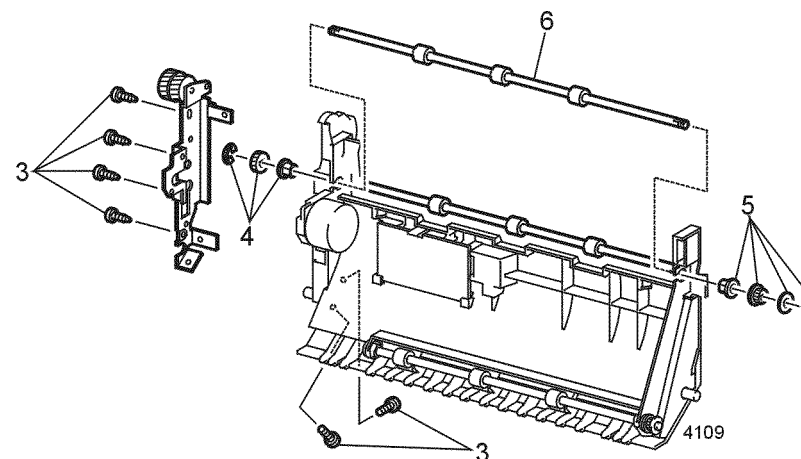

Figure 1 Upper Roll Assembly
4. Remove the E-ring, Z15 gear, and bearing from the left end of the Upper Roll Assembly (Figure 1).
5. Remove the E-ring, collar, pulley, and bearing from the right end of the Upper Roll Assembly (Figure 1).
6. Remove the Upper Roll Assembly (Figure 1).